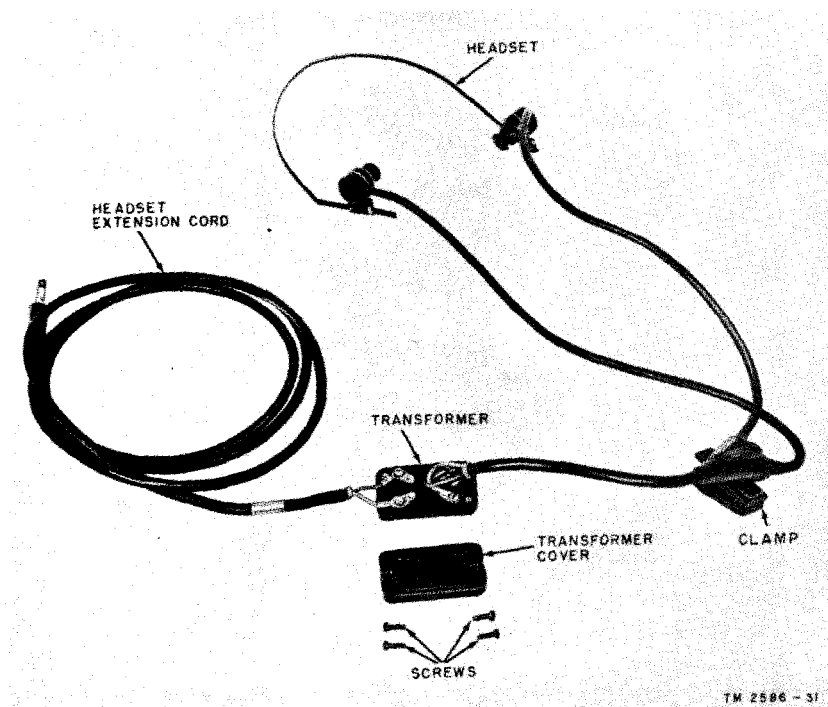

Figure 17. Connecting headset to headset extension cord.
d. Connect the two wires coming from the headset to the two screw terminals on the transformer marked HEADSET. Connect the white wire of the headset on the opposite end but on the same side as the white wire from the headset extension cord. Connect the other wire to the other terminal (fig. 17).